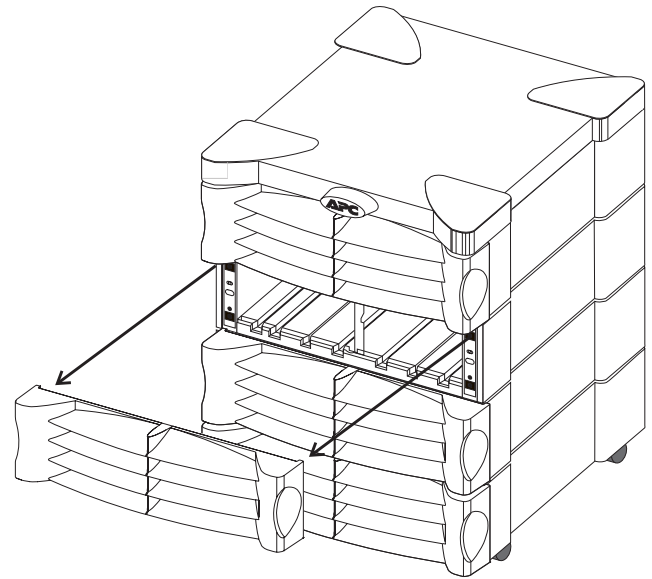

Fig 5-2 Removing Grill Covers from Frame
1. Grasp one of the covers by the side holds. See figure 5-2.